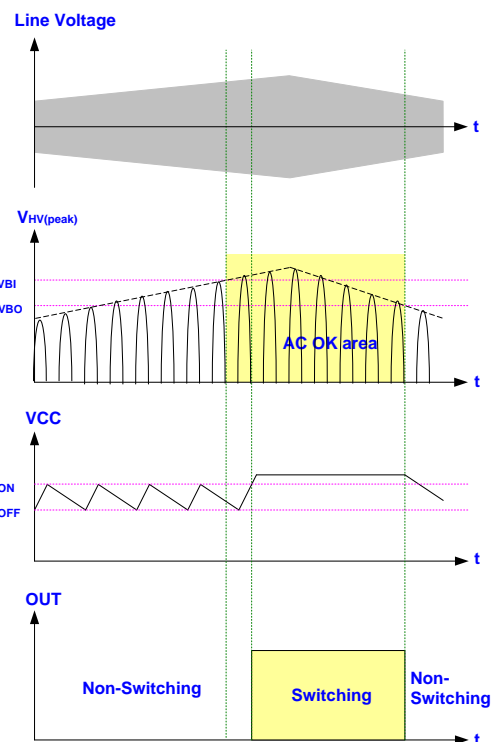

Fig. 13
The LD5760E features Burn-in/out function on HV pin. As the built-in comparator detects the half wave rectify line voltage condition, it will shut off the controller to prevent from any damage. Fig. 13 shows the operation. When $V_{HV} < HVBO$, the gate output will remain off even when the VCC already reaches UVLO(ON). It therefore forces the VCC hiccup between UVLO(ON) and UVLO(OFF). Unless the line voltage rises over $HVBI$ V_{AC} , the gate output will not start switching even as the next UVLO(ON) is tripped. A hysteresis is implemented to prevent the false-triggering during turn-on and turn-off.